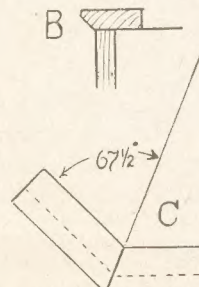

Fig. 3—Angle and chamfer of edging
A strip of the deal 1 in. wide should be bevelled at one edge, and cut into three pieces to form a cornice at the top of the cupboard. These should be accurately joined at the angles, as at (C) in Fig. 3, and over-